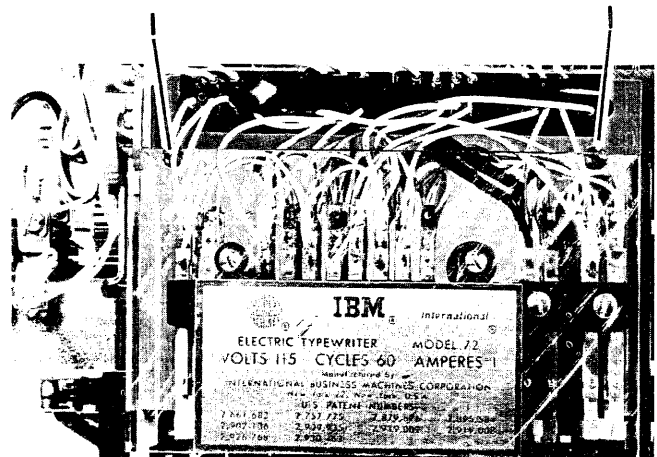

FIGURE 31. Selector Bail Removal
- * 1. Remove the two screws (#1, Figure 31) that hold the contact plate to the frame. Remove the contact assembly, holding it to the front with a rubber band.